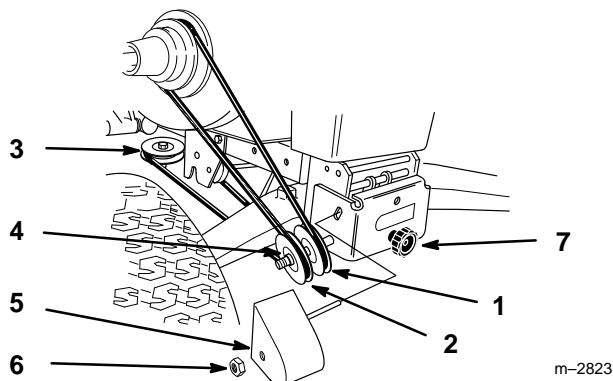

Figure 31
7. Route belt around V and flat pulleys and loop over center mower spindle, top pulley.(Fig. 31).
8. Check that spacer is on shaft and install belt cover with rod in hole. Secure with locknut (Fig. 31).
9. Turn knob counterclockwise to tighten belt (Fig. 31). Tighten until there is 1" (26 mm) belt movement between engine clutch and idler pulley when slight pressure is applied to the belt.